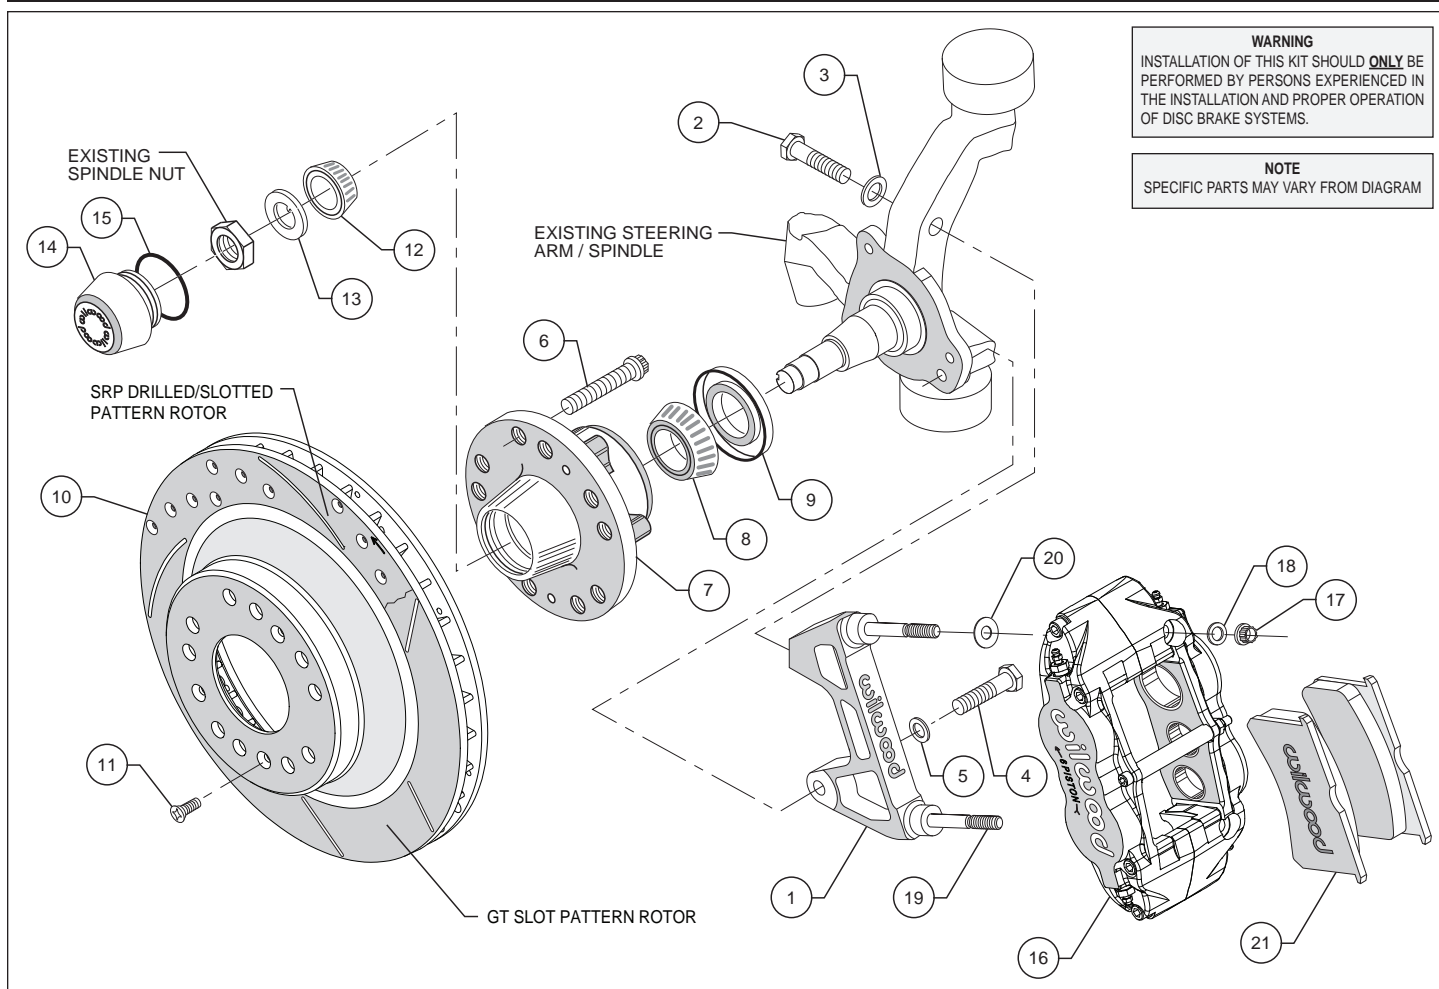

Figure 1. Typical Installation Configuration
Assembly Instructions (numbers in parenthesis refer to the parts list on the preceding page, and Figure 1):
- The caliper mount bracket (1) should initially be installed with clean, dry threads on the mounting bolts. Orient the bracket as shown in Figure 1, and install using bolts (2/4) and washers (3/5). Temporarily tighten the mounting bolts. **NOTE:** The bracket must fit squarely against the mount bosses on the upright. Inspect for interference from casting irregularities, machining ridges, burrs, etc. After the bracket fitment has been checked, remove the bracket bolts one at a time and apply red *Loctite*® 271 to the threads. Torque bolt (2) to 65 ft-lbs., and bolt (4) to 50 ft-lbs.
- Install wheel studs (6) into the hub (7), Photo 1. Torque to 77 ft-lb. **NOTE:** There are two five lug patterns in the hub (5 x 4.50 and 5 x 4.75). Ensure the correct hub stud pattern is being used to fit the wheel application.
- Pack the large inner bearing cone (8) with high temperature disc brake bearing grease (available from your local auto parts store) and install into the backside of the hub (7), Photo 2.
- Install the grease seal (9) by pressing into the backside of the hub (7), flush with the end of the hub, Photo 2.
- Pack the small outer bearing cone (12) with high temperature disc brake bearing grease and install into hub (7). Slide the hub assembly onto the spindle. Secure using spindle washer (13) and OEM spindle nut, Photo 3. Adjust bearings per OEM specifications. Install saved OEM nut lock (if any) and a new cotter pin (not included).
- Screw dust cap (14) into hub (7), Photo 4. Friction created by the o-ring (15) on the dust cap keeps it from unscrewing. **NOTE:** The O.D. of the existing OEM spindle washer may be larger than the I.D. of the dust cap not allowing it to seat against the hub face. Therefore, use the spindle washer (13) supplied with the kit instead of the OEM washer.
- Slide the hat/rotor (10) onto the hub (7) taking care to align the small countersunk holes in the hat with the small threaded holes in the hub. **NOTE:** The hat must fit flush against the hub face or excessive rotor run out may result. Install three flat head screws (11) through the small holes in the hat (10), Photo 4, and torque to 85 in-lb.
- NOTE:** This kit contains distinct right and left hand calipers that must be mounted in a specific direction, as described below. Lubricate the caliper mounting studs (19) with lightweight oil. Initially place one .035" thick shim (20) on each stud between the caliper and the bracket, as shown in Figure 1 and Photo 5. Mount the caliper (16) onto the bracket (1) using lock nuts (17) and washers (18), Figure 1. Ensure that the caliper is mounted so the largest pistons are at the rotor exit end of the caliper, in relation to the direction of rotor rotation. Temporarily tighten the lock nuts.